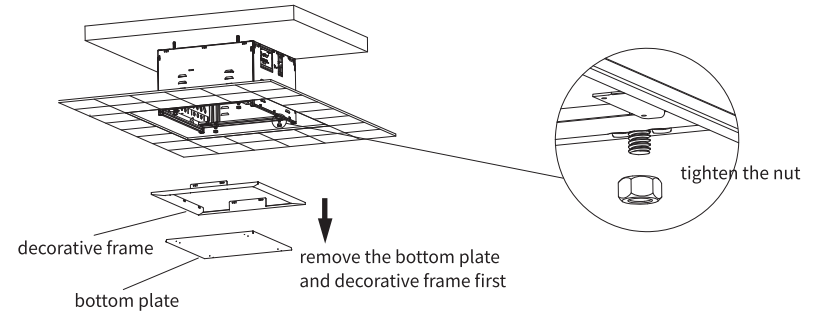

figure 5
3.First remove the bottom plate and decorative frame before installation, and then tighten the nut, as shown in Figure 5